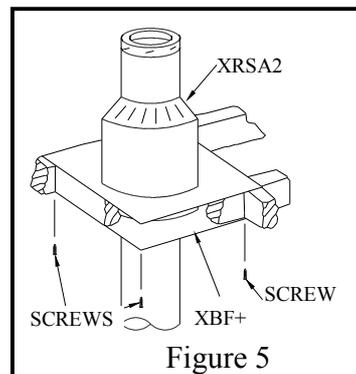

Figure 5
- 4 From below, install a firestop (XBF+) in each floor through which the chimney passes. At the attic level, install a firestop plate (XBF+) from below; from above install an attic radiation shield (XRSA2) (See Fig.5).